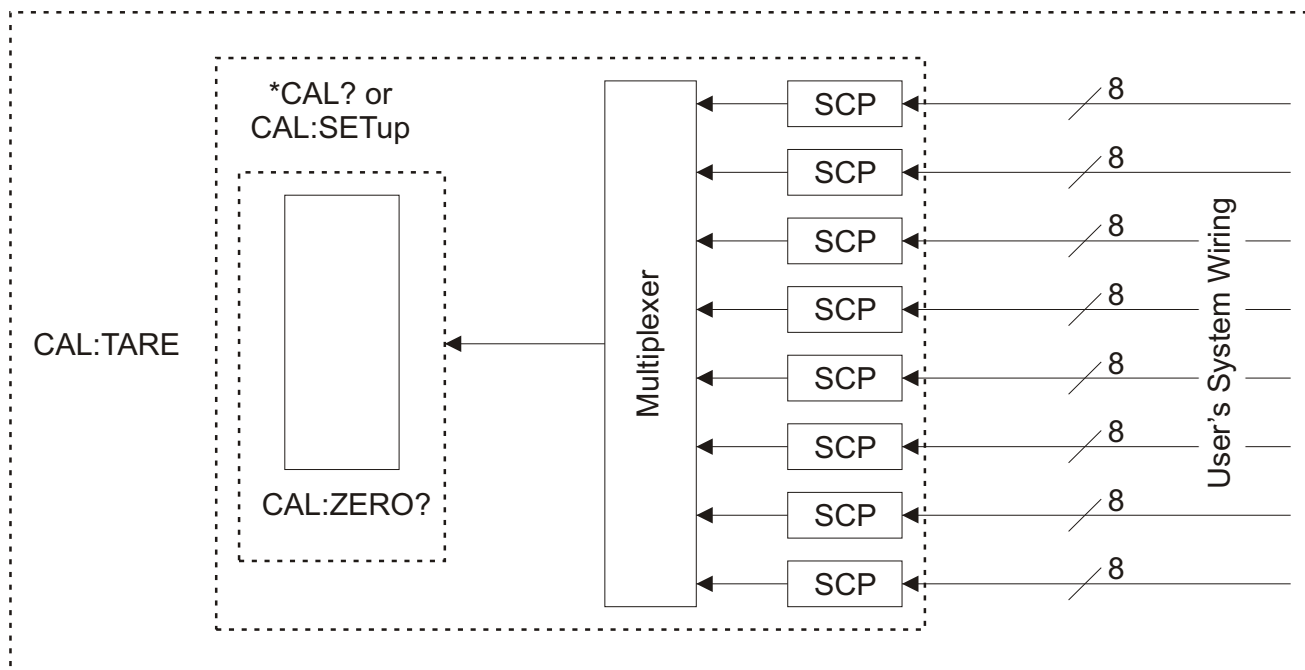

Figure 6-3: Levels of Working Calibration
2. “Working Calibration”: This category consists of three levels (see Figure 6-3):